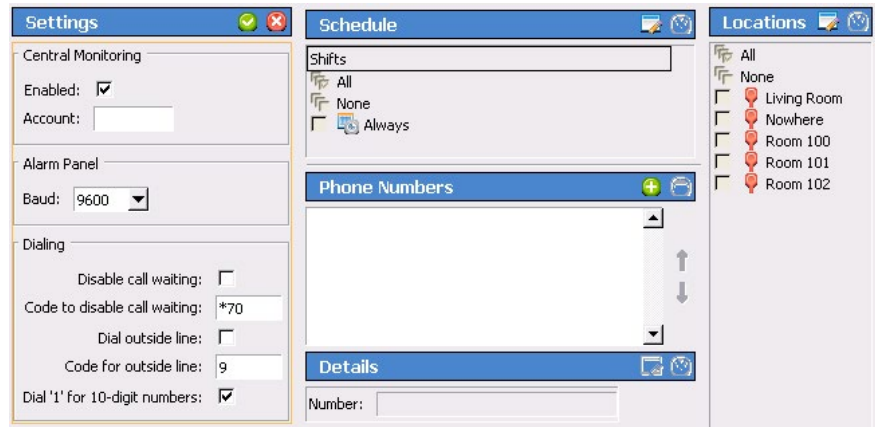

Figure 39: Central Monitoring Page
1. Click on **Central Monitoring** in the page selection pane of the Config Tool. The Central Monitoring page is shown in Figure 39.